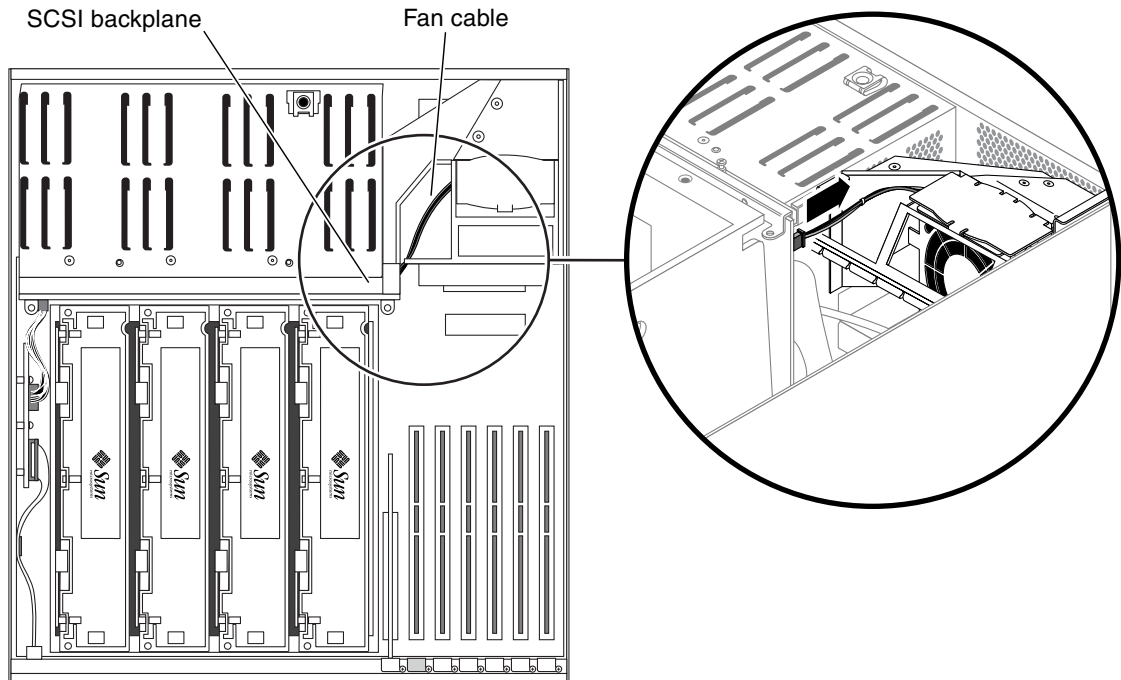

FIGURE 4-17 Disconnecting the Fan Cable from the SCSI Backplane
4. Disconnect the fan cable from the SCSI backplane (FIGURE 4-17).